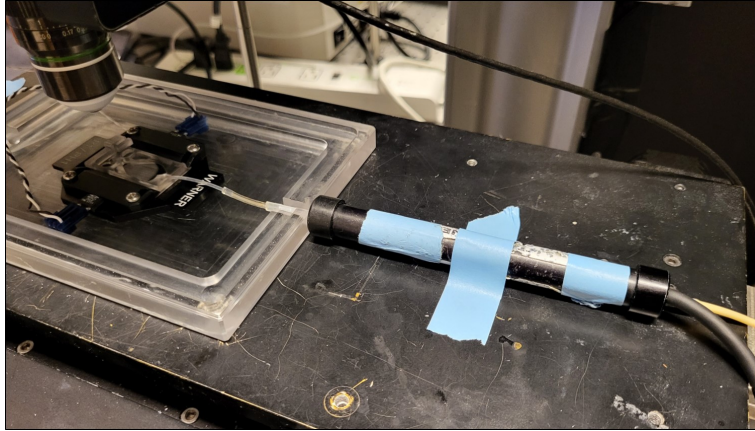

Figure 5: Proper installation of the inline heater.
10. Place the heating unit on the stage with the outlet in the drip tray slot. See Figure: 5.
11. Insert the outlet tube into the side of the perfusion chamber. See Figure: 5.
12. Tape the heating unit onto the stage to secure it. See Figure: 5.